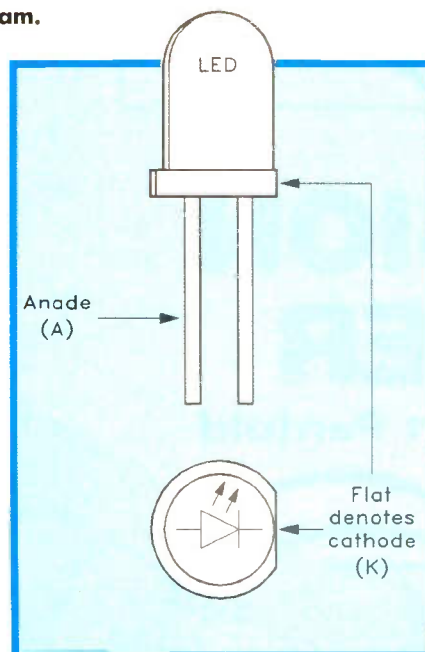

Figure 3. LED symbol and connections (LD1, 2).
b) Next fit the LEDs, LD1 and LD2, which are 'blobs' of clear red plastic with two wires coming out of one end. They are fitted in the position shown on the guide-sheet, and *must* be connected the right way round – or they will not light up. One side of each LED is flattened (the lead on this side of the LED is known as the cathode (K), while the lead on the other, rounded, side is called the anode (A)). The LED, circuit symbol and connections are shown in Figure 3. Make sure that